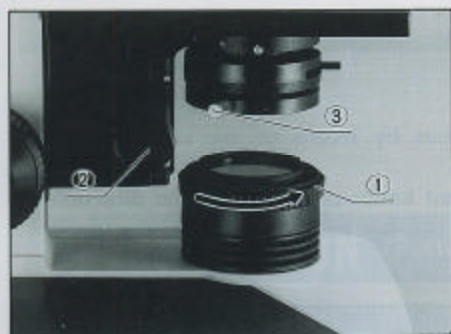

Fig. 19
- 1) Rotate the diaphragm ring ① counterclockwise to stop down the iris diaphragm to the minimum. (Fig. 19)
- 2) Rotate the condenser height adjustment knob ② in either direction until the image of the field diaphragm is visible sharply in the field of view. (Fig. 19)
- 3) Bring the image of the field diaphragm into the center of the field by means of the two attachment lens centering screws ③. (Figs. 19, 20)
- 2) Turning the field diaphragm ring ① (Fig. 19) counterclockwise reduces the diaphragm opening, or reverse the ring to increase the opening.